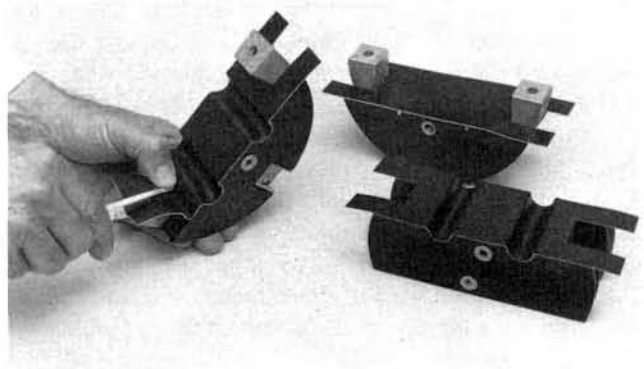

Figure 19
8.03 When C-Cement becomes tacky, remove the protective backing from a strip of LOCK-TAPE™ Sealant and apply LOCK-TAPE™ Sealant, white side down without stretching, on the foam side of the end plate piece, following the contour of the cable holes. *Allow approximately 3/4" of LOCK-TAPE™ Sealant to extend beyond each end of the end plate. Square cut the tape away from the bolt hole area just beyond the metal insert. Figure 19.